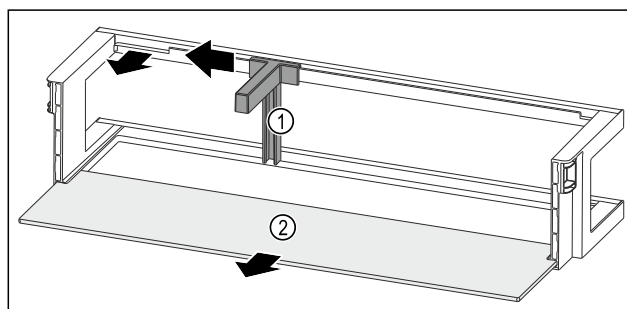

Fig. 117 Door rack with bottle holder and shelf
- Slide the bottle holder Fig. 117 (1) to the side as far as the recess.
- Remove the bottle holder Fig. 117 (1).
- Remove the shelf Fig. 117 (2).